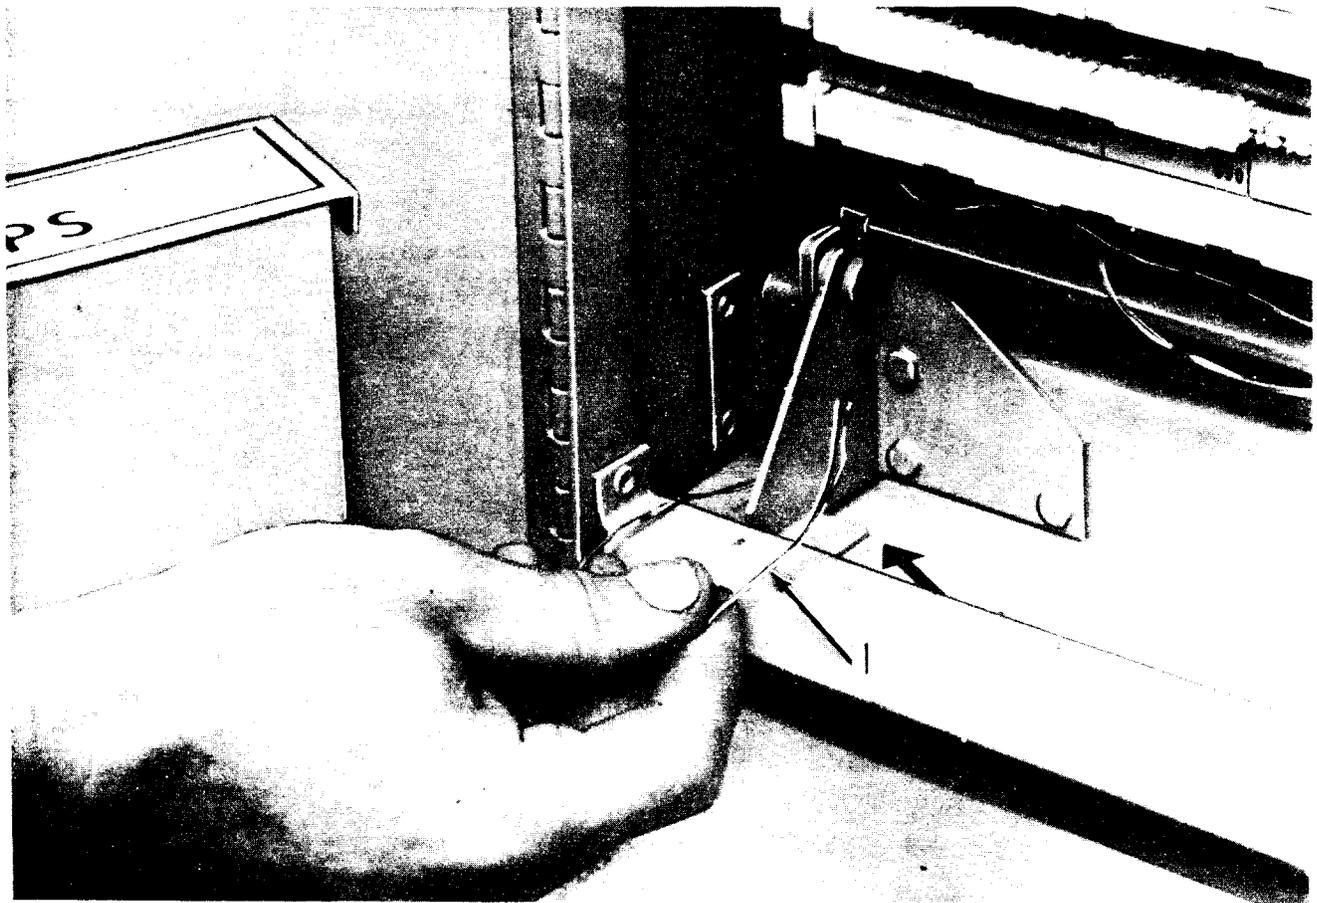

Fig. 3.—Obtaining Cross-Connecting Wire
3.02 Terminate the cross-connecting wire on 88-type connecting block as outlined in Fig. 3 through 8.
- (a) Locate the feeder-in pair specified on the service order. If the feeder-in pair is not covered with a patch plug, terminate the cross-connecting wire to the assigned feeder-in pair and the distribution pair as outlined in Fig. 3 through 8.
- (c) If line is not in service, remove patch plug and terminate cross-connecting wire to the assigned feeder-in pair and the distribution pair as outlined in Fig. 3 through 8. Place the patch plug in the storage box on the cabinet door.